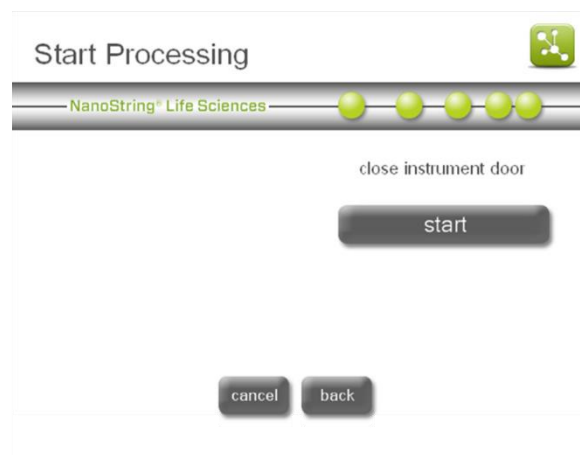
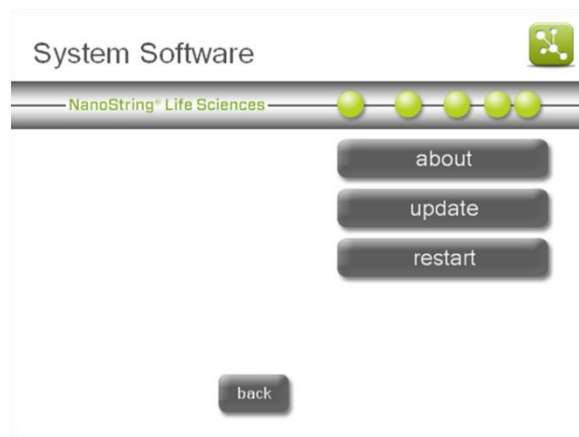

Figure 140: The 'Start Processing' screen.
Figure 149: The 'System Software' screen.
6. The 'Start Processing' screen will appear (**Figure 140**). Press **start** to initiate the protocol.
Select **software** from the Maintenance Menu (**Figure 140**) to update Digital Analyzer's system software when a new release occurs, view the current software version information, and restart the system in troubleshooting situations (**Figure 149**).